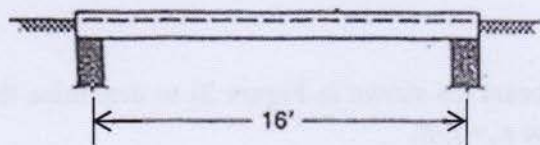

Figure: 4
8. A rectangular beam is to be designed to carry a shear force (V_u) of 27 kips. No web reinforcement is to be used. Obtain the minimum cross section of the beam if controlled by shear? (10)
9. Four #11 bars of column, below from a floor are to be lap spliced with four #10 bars from above, and the splice is to be made just above a construction joint at floor level. The column cross section is 12" \times 21", will be subjected to compression only for all load combinations. All vertical bars may be assumed to be fully stressed. Calculate the required splice length of the bars. For #11 the bar diameter (d_b) is 1.41" and for #10 its 1.27". (10)
10. A footbridge is to be constructed, consisting of a one way solid slab spanning 16ft between masonry abutments as shown in **Figure 4**. The service live load of the slab is 100 psf. A 2" asphalt wearing surface will be used, weighing 20psf. Design the slab by USD method following the ACI provisions. (15)